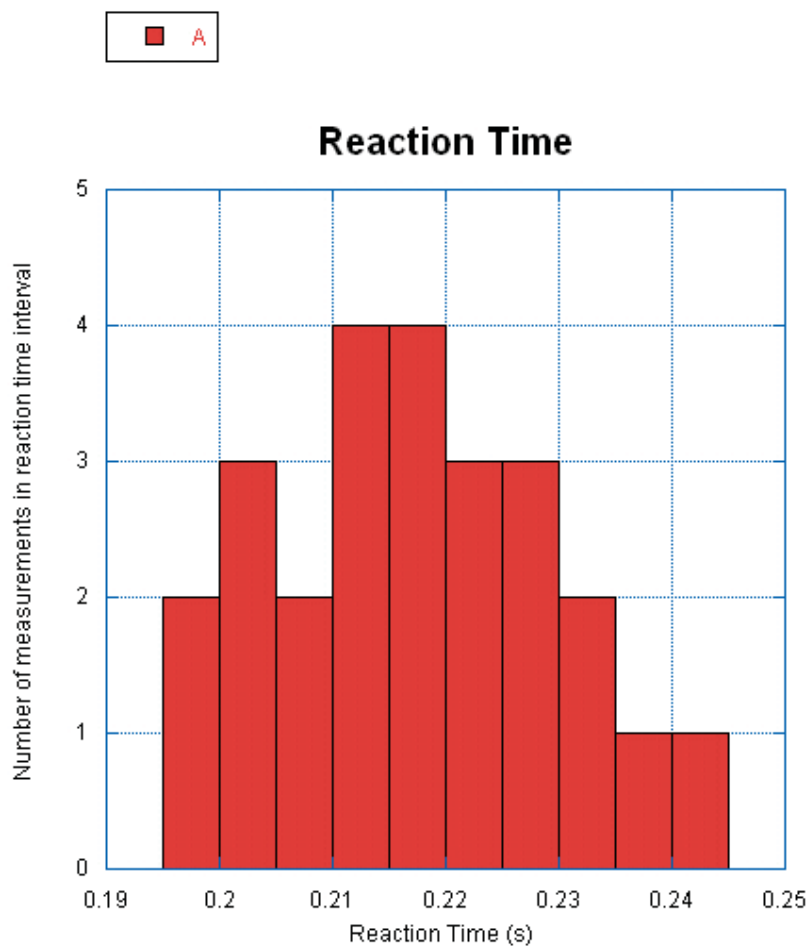

Figure 2.1: Typical histogram (bin size = 0.005 seconds).
The histogram is a diagram drawn by dividing the original set of measurements into intervals or “bins” of predetermined size, and counting the number of measurements within each bin. One then plots the frequency (the number of times each value occurs) versus the values themselves. A histogram has the advantage of visually presenting the distribution of readings or measurements. Fig. 2.1 shows a typical histogram for a set of observations. The histogram displays the number of measurements. For example, the first bin has two measurements between 0.195 seconds and 0.200 seconds. When placing the values into bins, one systematically puts values that occur on the bin limits into the next higher bin.
16. Change the number of bins such that your histogram looks similar to the one shown in Fig. 2.1. Do this by going to **Plot ▶ Plot Options ▶ Histogram ▶ Specifying the Number of Bins**, select **Fixed**, input an appropriate integer number, and press **OK**. Make sure most of the bins are filled in so that there are not many gaps in your histogram.